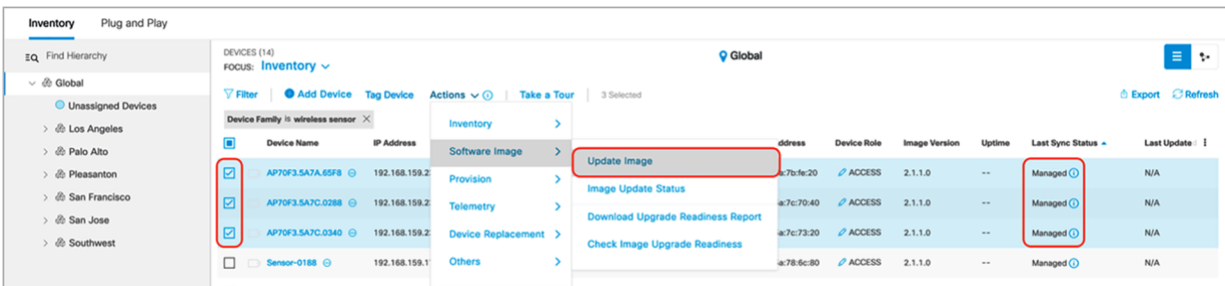

Figure 50.
- d. After you select all the sensors, click Action and select Image Upgrade. Make sure all selected sensors are in Manage status (**Figure 50.**).